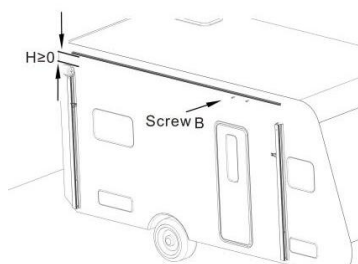
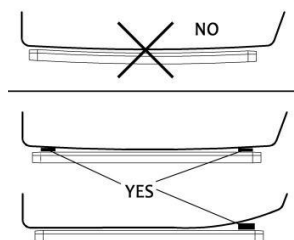

Figure C6
Figure C7
3.3 Take out the vehicle fabric guide rail and fix it to the outside of the vehicle body with screw B. It is recommended to use one screw B every 300mm, and the installation position of the fabric groove should not be lower than the top of the arm. (Figure C6) The fabric guide rail should be installed horizontally. If there is a radian on the vehicle body, pad the fabric guide rail flat (gaskets to be supplied by the user) (Figure C7)